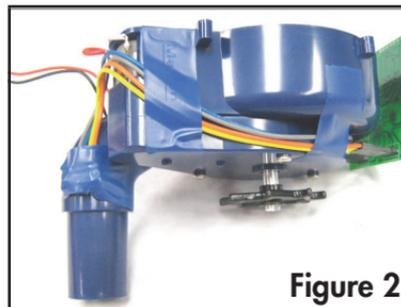

Figure 2
9) (Figure 2) Clean the sensors with a dry cloth if necessary. Insert the sensors into the holes in the feed tube, with the orange/yellow wired sensor in the hole on the right, the blue/grey wired sensor going in the hole on the left. Wrap electrical tape neatly 2 times around the feed tube over the sensors to prevent sunlight from interfering with the sensors.
2) (Figure 2) Slide the back plate and the circuit board together into the left side shell to prevent breaking the power button on the board. The shell has a full length groove all around for the back plate, and there are 2 notches in the corners of the cavity for the circuit board to seat into. Be sure circuit board is seated into those 2 notches.